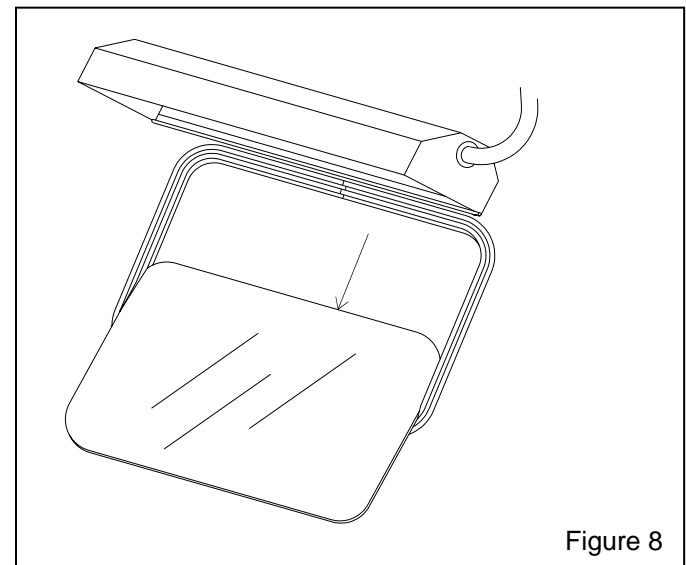

Figure 8
6.3.4. Pull the window downward to remove the window from the molding, as shown if Figure 8.